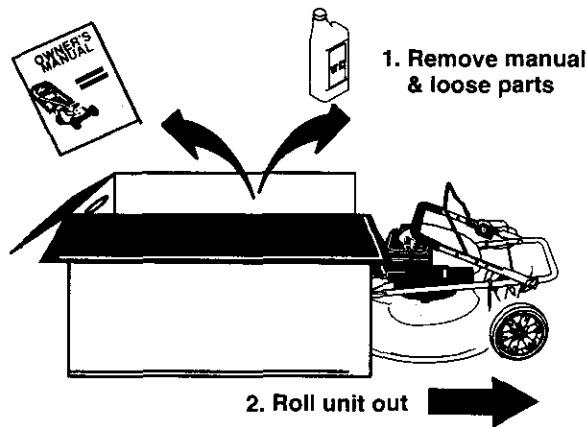

Figure 1
- Remove any loose parts, if included with unit. See Figure 1.
- Roll or slide unit out of carton. See Figure 1. Check carton thoroughly for loose parts.